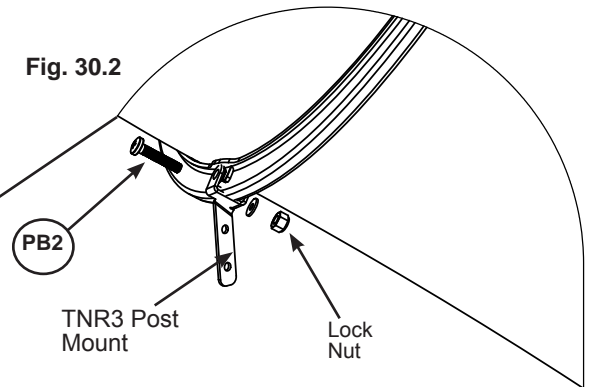

Fig. 30.3
**C:** Insert TNR3 Post Mount on (281) TNR Upright, pre-drill with a 1/8" drill bit then attach with 2 (S6) #12 x 1" Pan Screws. (fig. 30.3)